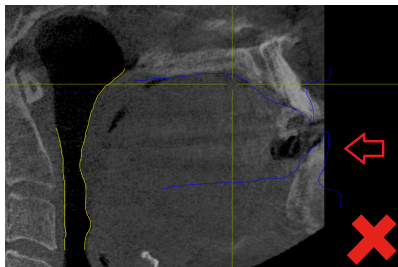

Figure 1: Missing areas in the CBCT data
- Ensure that all the necessary image information is contained in the CBCT scan (see figure 1). The patient's upper and lower jaw must be captured in full in the X-ray. Otherwise, it is not possible to register the optical impressions.